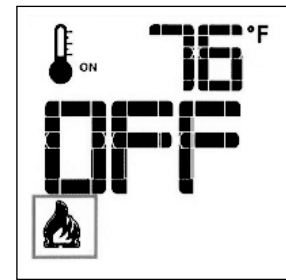

Figure 8.12. Burner OFF.
- With the system ON, and the burner flame level at maximum, press the Down Arrow Key once to reduce the flame height by one step. Each time the Down Key is pressed, the flame will step down until the burner is finally turned off. Fig. 8.12.